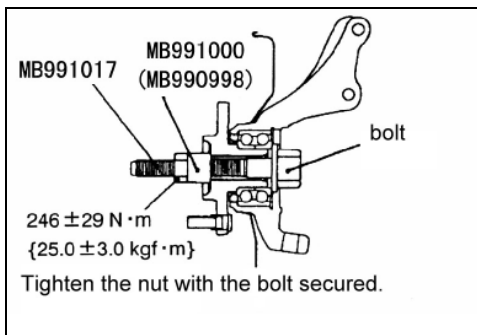

Fig.12-16
(2) Hub starting torque check
- a. Tighten the special tool to the specified torque, and then press the hub into the knuckle(see Fig.12-16)。